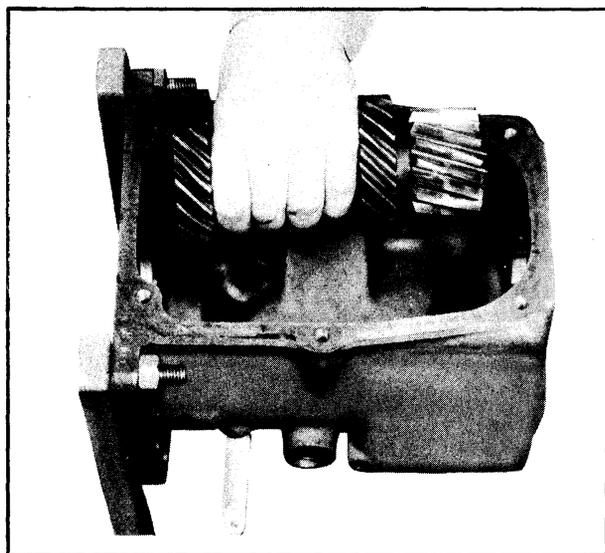

Fig. 11-19 Removing Counter Gear
15. Carefully raise counter gear out of case so that bearing loader, bearings, and bearing retainer washers do not fall out. Remove all thrust washers. Note that a bronze and a steel washer are used at the rear (with bronze washer next to the gear), and a larger bronze washer, only, is used at the front. (See Fig. 11-19)